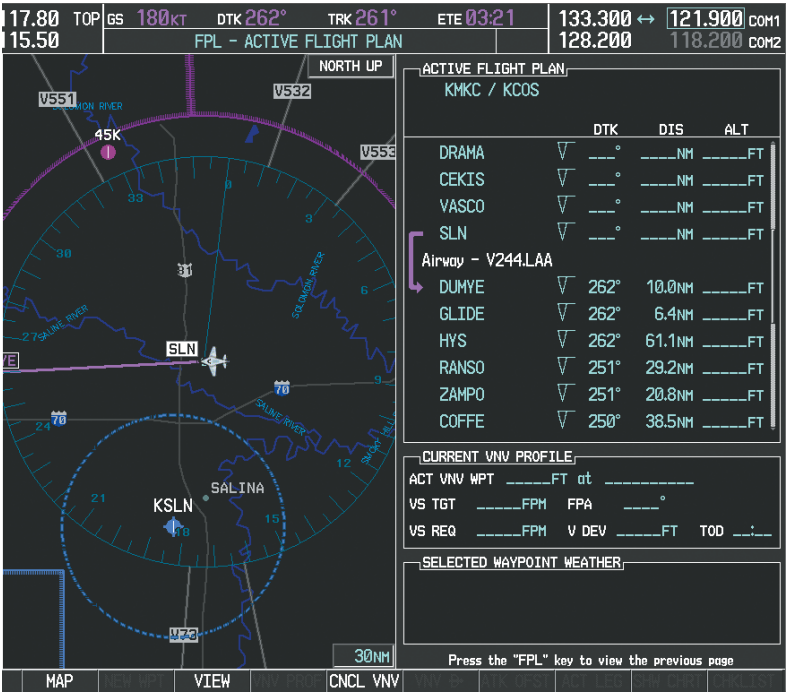

Figure 5-124 V244 Now Active Leg
9) As seen in Figure 5-124, V244 is now the active flight plan leg.